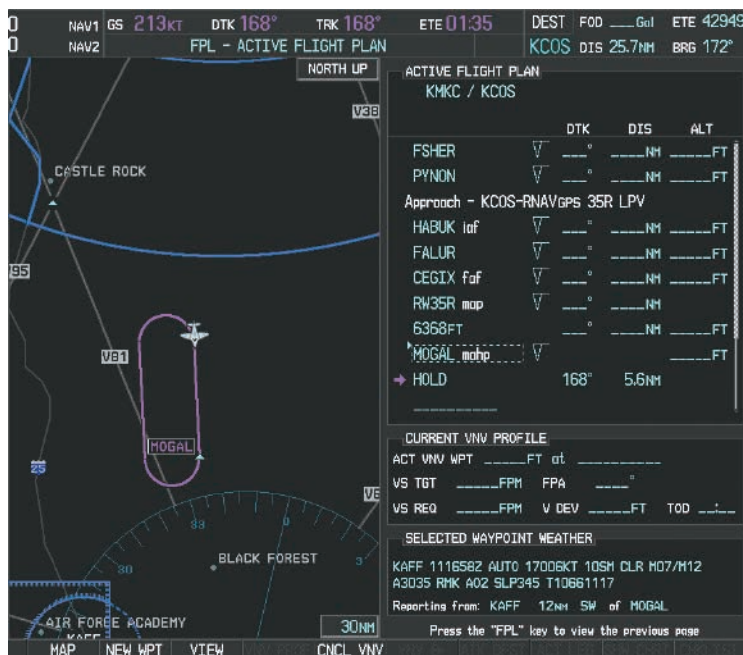

Figure 5-152 Hold Established
- 27) The aircraft maintains 10,000 feet while following the magenta line through the hold as in Figure 5-152.